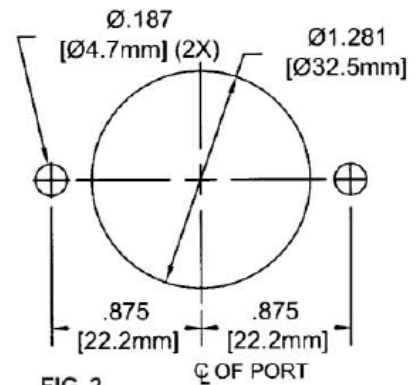

FIG. 2
7.1. PANEL MOUNTING OF RH PUMP HEADS. Two threaded holes (#8-32) are provided on the back side of each RH pump head for panel mounting purposes. A bearing adjustment access hole is also required. Each panel mount layout should, therefore, provide the three holes as shown in fig. 2. below.